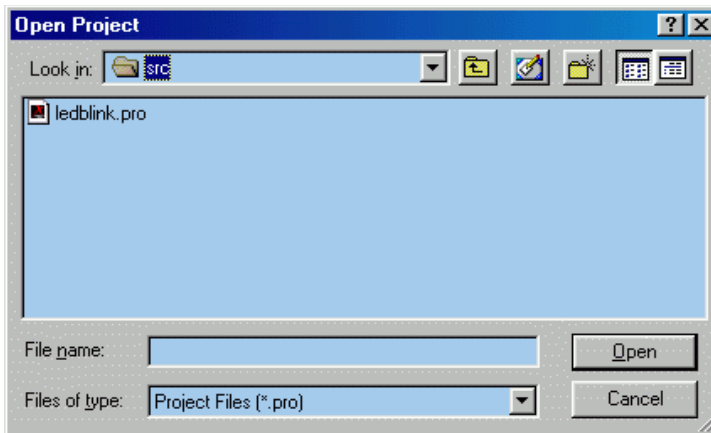

Figure 5. src Folder (Reference Only)
7. Select the `Z8F08xx_ledBlink` folder and then the `src` folder to access the project file containing `ledBlink.pro` (See Figure 5).